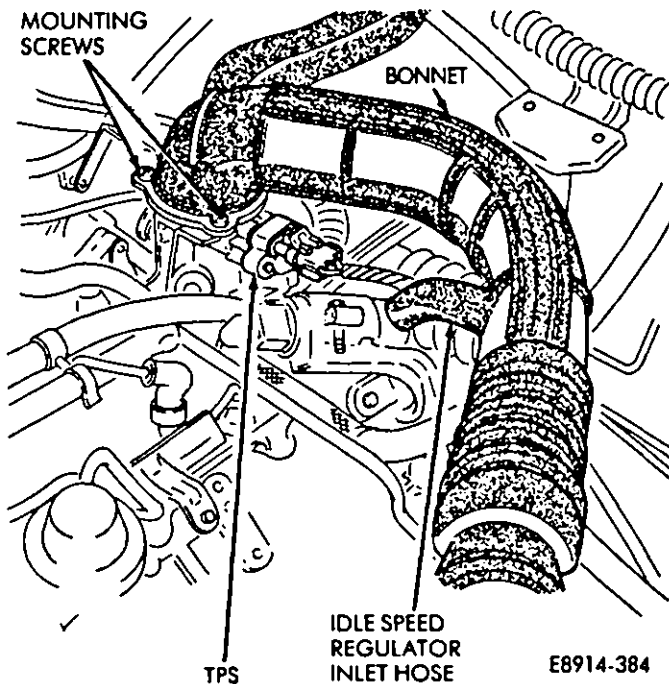
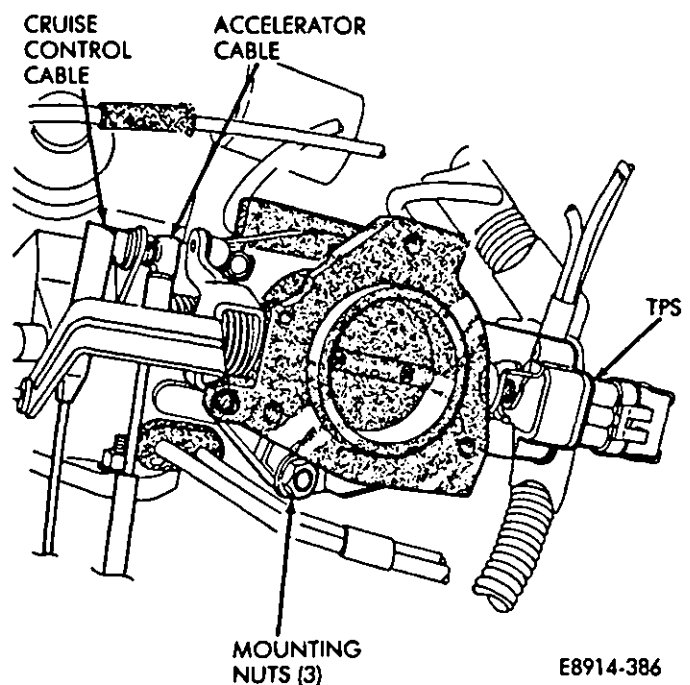

Fig. 1—Throttle Body Removal/Installation
Fig. 2—Throttle Body Mounting Nuts
- (1) Remove the air bonnet to throttle body mounting screws (Fig. 1).
- (2) Disconnect idle speed actuator inlet hose and move the air bonnet to the side (Fig. 1).
- (3) Disconnect the TPS electrical connector (Fig. 1).
- (4) Disconnect accelerator cable at throttle lever (Fig. 2).
- (5) If the vehicle is equipped with cruise control, disconnect the cruise control cable at throttle lever (Fig. 2).
- (7) Remove throttle body mounting nuts at the base of the throttle body (Fig. 2) Remove throttle body.
- (8) Remove old gasket.
- (1) Install the gasket and throttle body. Tighten throttle body mounting nuts to 17.5 N·m (13 ft-lbs) torque (Fig. 2).
- (2) Connect the cruise control cable (if equipped) to throttle lever.
- (3) Connect accelerator cable to the throttle lever.
- (4) Connect TPS electrical connector to TPS (Fig. 1).
- (5) Connect idle speed regulator inlet hose.
(6) Connect the air bonnet to the throttle body. Tighten mounting screws to 3.9 N·m (35 in-lbs) torque (Fig. 1).
(7) Connect throttle return spring (if applicable)